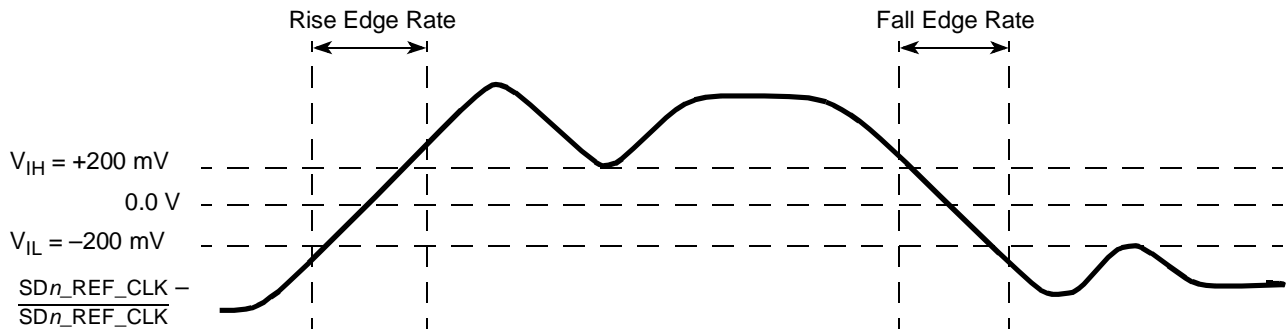

Figure 50. Differential Measurement Points for Rise and Fall Time
3. Measured from -200 mV to +200 mV on the differential waveform (derived from $\overline{\text{SD}}_{\text{REF_CLK}}$ minus SD $_n$ _REF_CLK). The signal must be monotonic through the measurement region for rise and fall time. The 400 mV measurement window is centered on the differential zero crossing. See Figure 50.